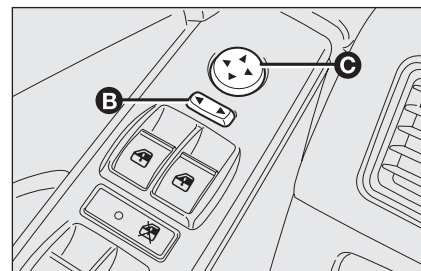

fig. 54
- use switch **B**-fig. 54 to select the mirror required (left or right);